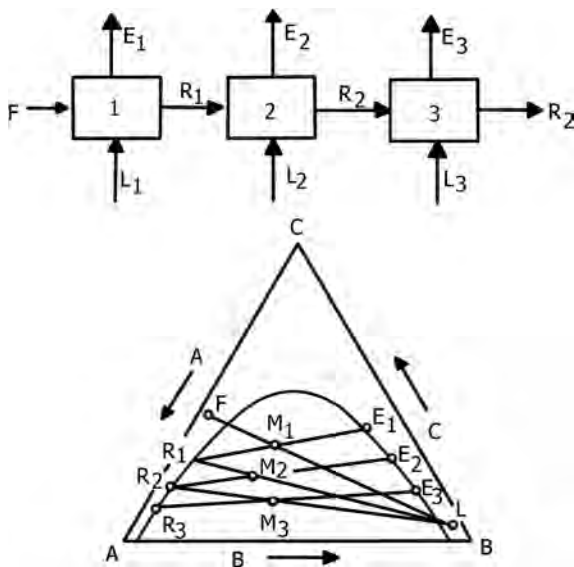

FIGURE 17.48 Multistage extraction with cross-flow.
- Figure 17.48 illustrates the graphical method.